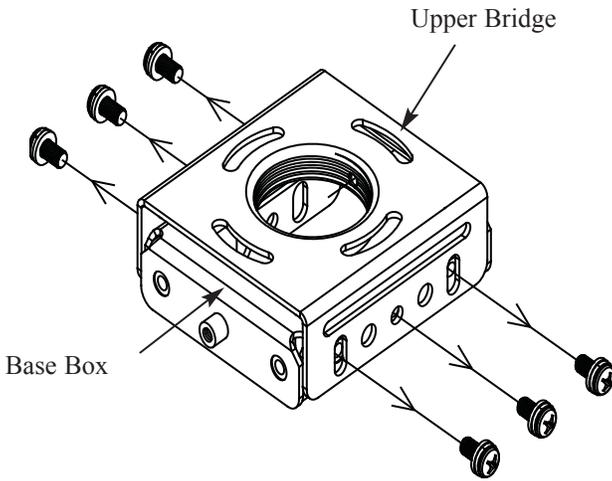

Figure 1
1. Separate the Upper Bridge from the Base Box by removing the six (6) M6 x 12mm Phillips Head screws three on each side (Figure 1).